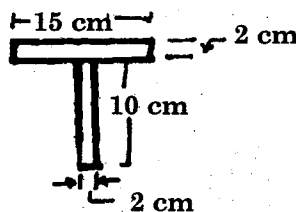

Fig. 2
5. For the 'T' section shown in Fig. 2 find the centroid.